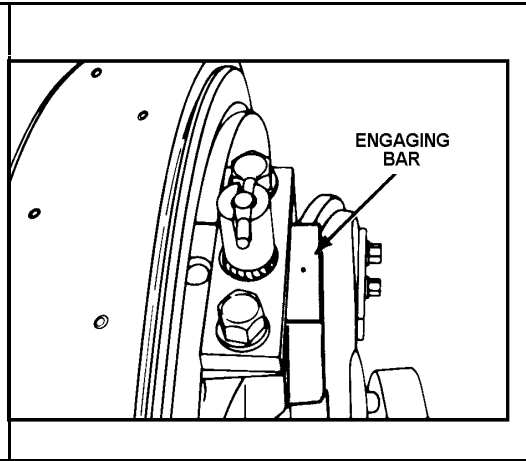

Figure 21-12. Wildcat Engaged
- Disengage the wildcat (Figure 21-12, page 21-16).